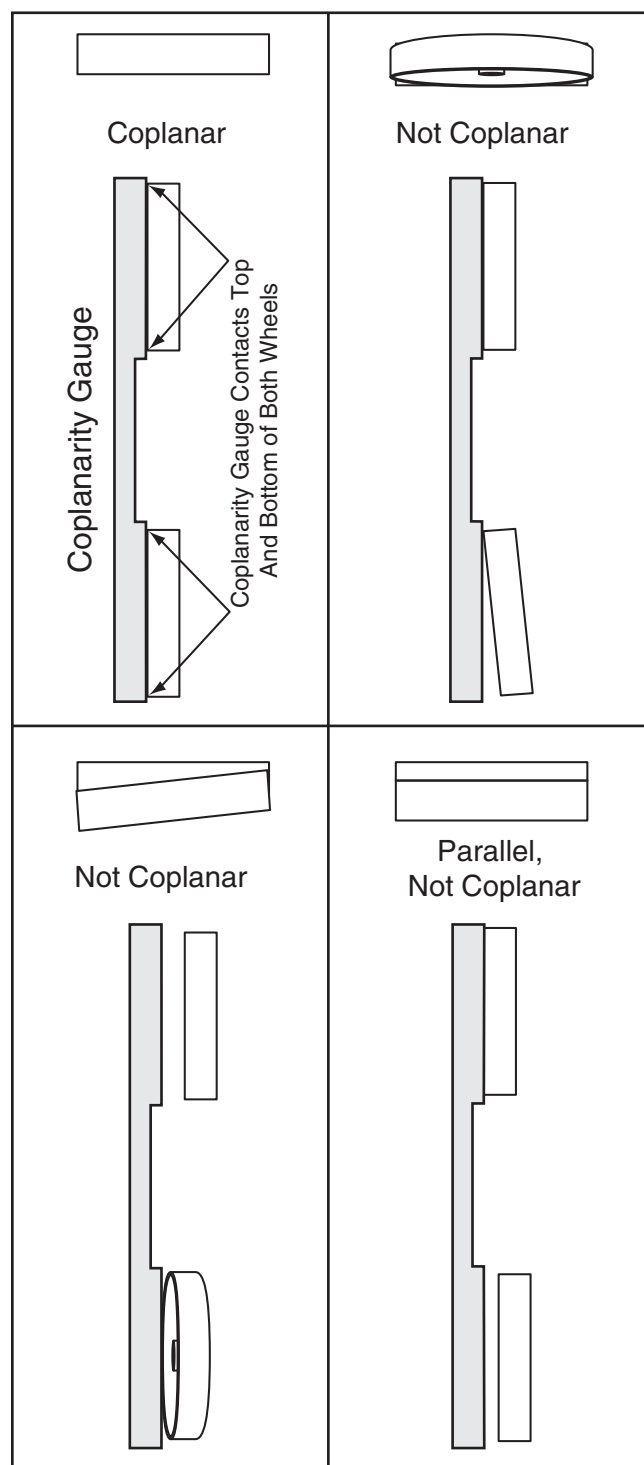

Figure 50. Wheel coplanar examples.
When the wheels are coplanar (in the same plane), the bandsaw cuts straight, with much less vibration, heat, and blade wear because the blade is continuously balanced on the wheels. Refer to **Figure 50** to better understand this arrangement.
4. Hold a self-made coplanarity gauge (see **Figure 50**) close to the center of both wheels, making sure that the gauge fully extends across the wheels as shown in **Figure 50**.
Example 1: If the top of the lower wheel leans to far forward (see the top right example in **Figure 50**), thread the top two adjusting sleeves out.
Example 2: Alternately, if the lower wheel is parallel to the upper wheel but behind the plane of the upper wheel (see bottom right example in **Figure 50**), then thread all four adjusting sleeves in.